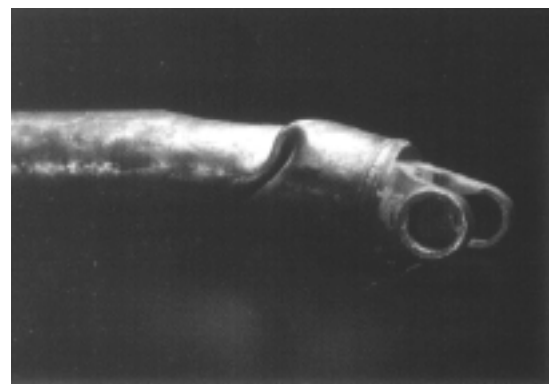

Figure 16—Rubber Insulator Wear
- Shaft support rubber insulator wear or fracture. **Figure 16.**